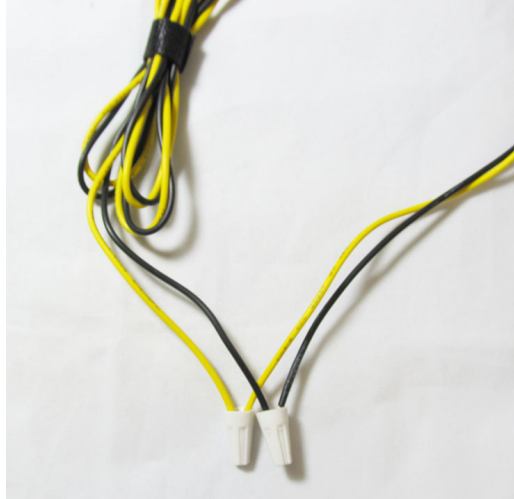

Figure 5 – Connect Runner cable to harness assembly
2. Connect the Runner power cable to the Runner power harness. Use wire nuts and match black wires to black wires and yellow wires to yellow wires (Figure 5).